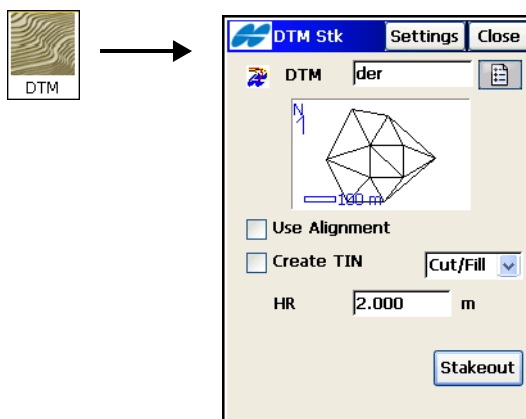

Figure 13-32. DTM Stakeout
To start the DTM (Digital Terrain Model) stakeout, select the **DTM** icon. The *DTM Stk* screen displays (Figure 13-32).
- **Open** – opens the selected file in the *DTM Stk* screen (Figure 13-32 on page 13-32).